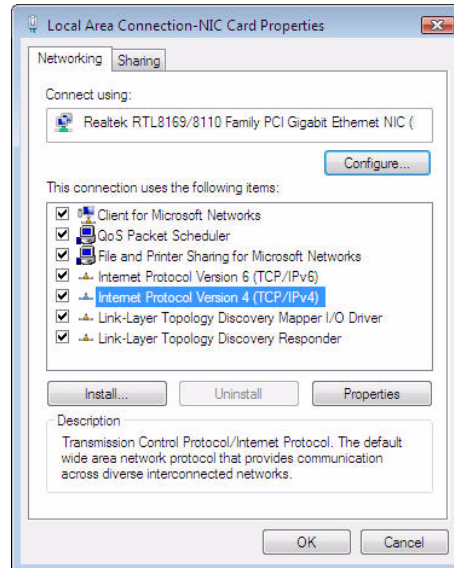

Figure 60: Local Area Connection Properties - Windows Vista
2. Right-click the Local Area Connection-NIC Card icon that represents the terminal network connection, then click **Properties**. The Local Area Connection-NIC Card Properties dialog appears as shown in Figure 60.